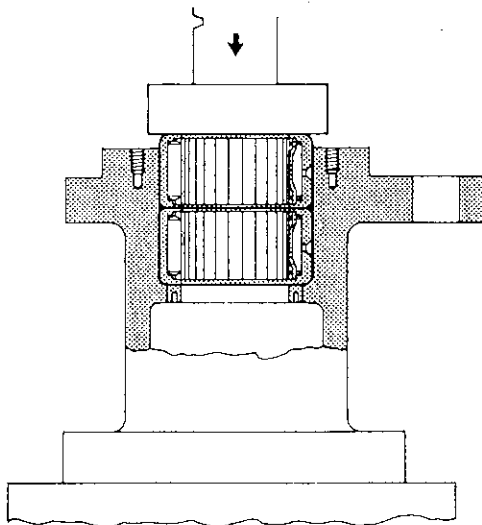

Figure 4.25
20. Press the first facet drive bearing (39) into the drive housing adapter (35) until it bottoms in the adapter.
21. Press the second facet drive bearing (40) in the same manner as above, until it bottoms against the first bearing. Pack both bearings with Lithium base general purpose grease. See Figure 4.25.